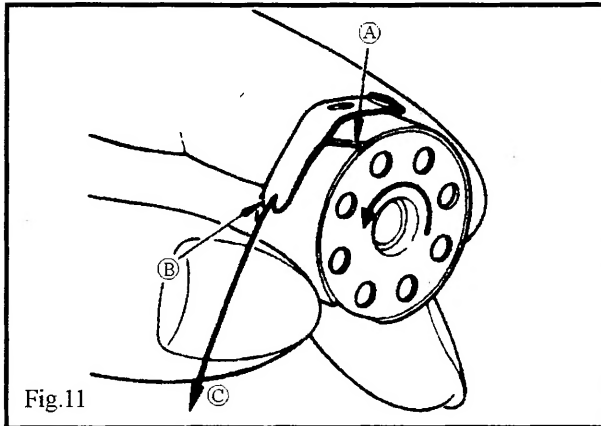

Fig.11
5.SETTING THE BOBBIN INTO THE BOBBIN CASE (Fig.11)